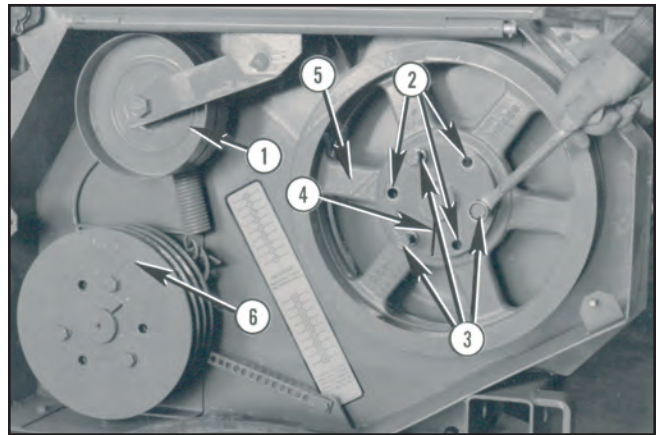
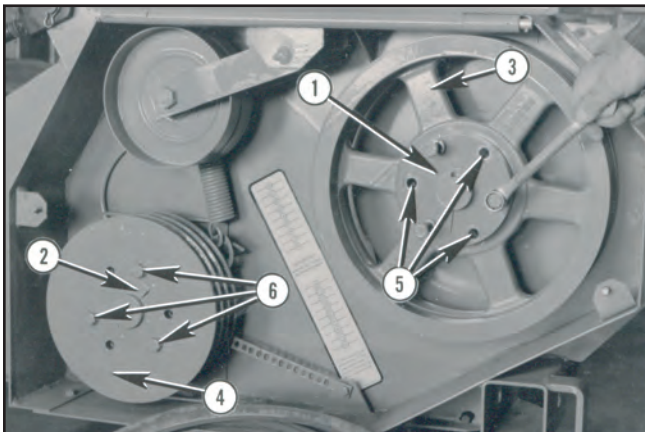

FIGURE 80
FIGURE 81
1. Loosen and remove belts and driven sheave. See Fig. 80, page 34.
2. Raise front of unit 12" or more off ground with trail hitch jack, or tractor 3 point hitch. Block both front corners accordingly and move hitch jack to shipping pedestal (1). Remove SMV, PTO, and either 3 point, or trailing, hitch. See ASSEMBLY, pages 46 - 48 and perform in reverse order as stated therein.
- Remove belts and drive sheave. See Figure 80, page 34. If unit is equipped with aftermarket hydraulics, remove hose support and fully retract cylinder(s). Loosen both inner and outer bearing's lube tube zerk nuts and detach lube tubes from their supports.
- Temporarily insure end panel shields are latched shut. Reinstall hitch draft pins (2) and their cotters.
- It is generally best to align driveR (1) to driveN sheave (2); thus, only 1 sheave need be loosened.
- Determine misalignment by placing a steel straight edge (3) across sheaves as shown.
3. Fully relieve belts tension by removing all tension on backwrap idler spring (4). The spring anchor (5) can be released by gripping it with locking pliers, pulling outward and simultaneously twisting downward.
4. Refer to Figure 80 at right for sheave loosening procedure and adjust driveR sheave's inner bushing in or out as required for realignment. Then reinstall sheave per Figure 81, page 35.